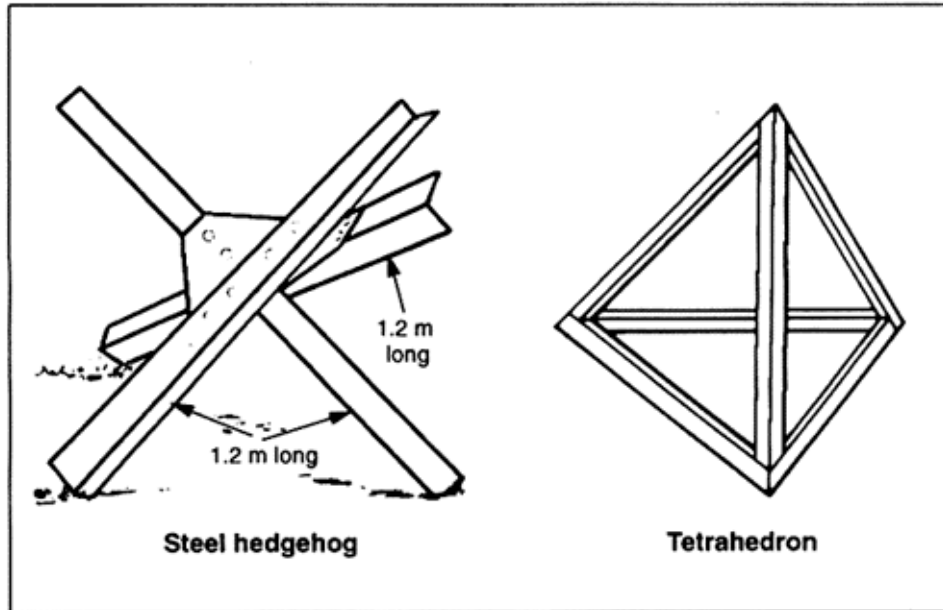

Figure 052-195-3066-13
- (1) Steel hedgehogs and tetrahedrons (Figure 052-195-3066-13).